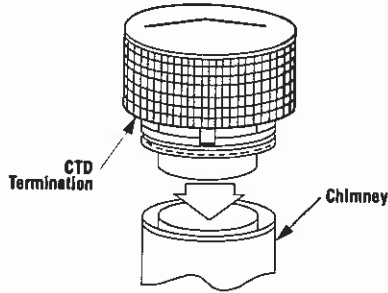

Figure 34
1. Hold the FTF8/FTF10-CTD over top of last chimney section (Figure 34).